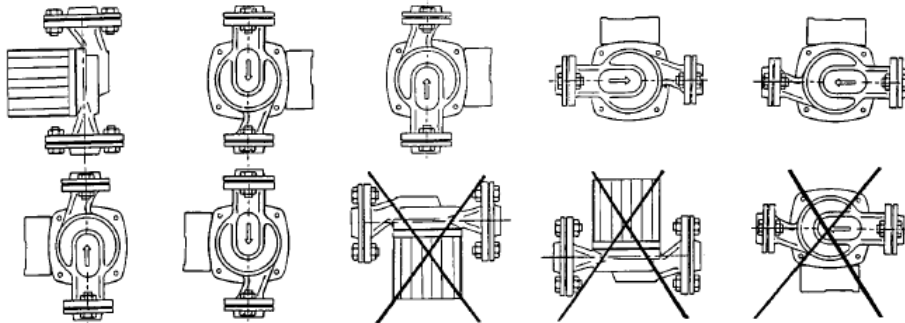

FIG. 2
The Model NRF/NBF/SSF Circulator can be installed to discharge up or down, horizontally, left or right, but the motor shaft must remain in the horizontal position, the arrow on the body must point in the direction of the flow, the conduit box must be positioned on the top or to the side of the motor housing (see figure 2). If the conduit box position must be changed, it is best to do so before installation. However, if the pump is already installed, see the section titled "REMOVAL OF PUMP FROM EXISTING SYSTEM FOR REPLACEMENT" before proceeding.
1. Remove the four (4) 1/4"-20 Allen screws (9/16" wrench) while supporting the motor assembly.
2. Remove the motor assembly from the pump body and rotate it to the desired position (see figure 2).